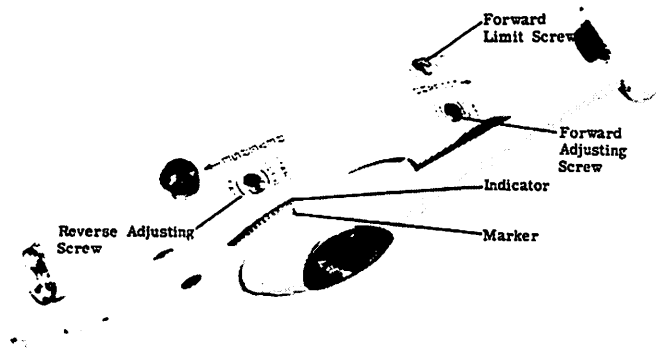

Figure 12. Forward Limit Adjustment
3. Adjust forward limit screw in control station (Figure 12) until engine throttle lever touches front throttle stop on bottom cowl. *Note: Purpose of forward limit in control box is to provide a positive stop for handle to prevent overloading cable and attaching fittings.*
- d. Now turn adjusting screw in "fast" direction 6 full turns. (Figure 12)